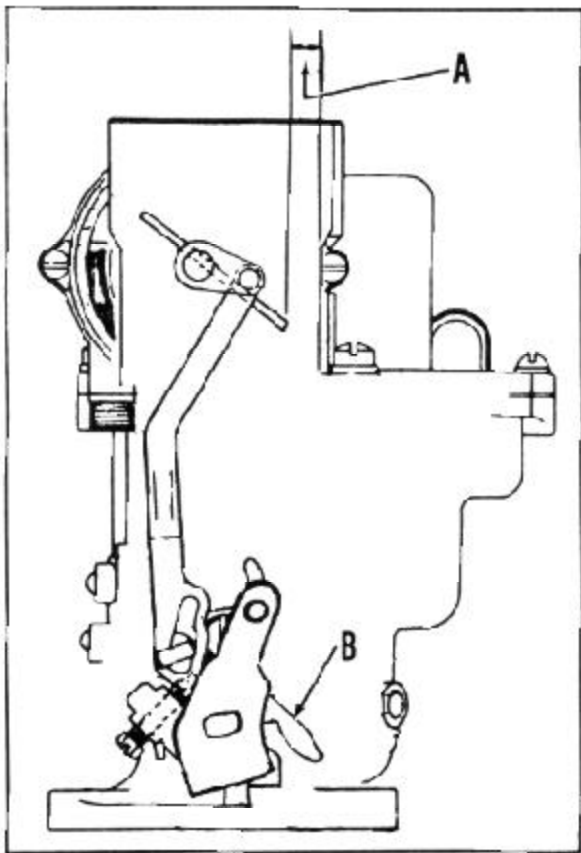

FIGURE 38
1. Open throttle wide open and check clearance between lower edge of choke valve and air horn. Clearance should be  $7/16$ " (A), Figure 38.
2. Adjust by bending cam (B) on throttle lever.